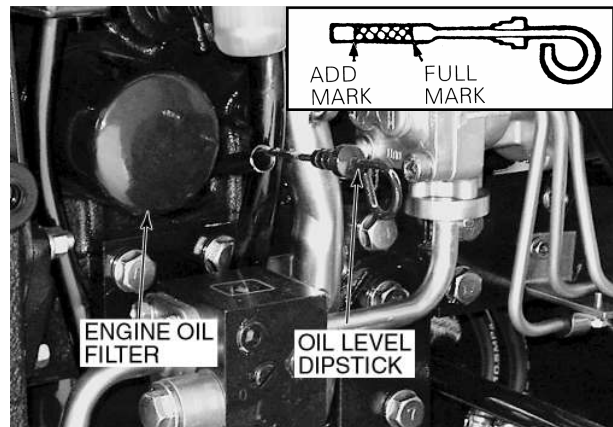

Figure 49 - Engine Oil Level Dipstick and Oil Filter
1. With the tractor standing level, and after the engine has been stopped for a period of time, check the oil level with the dipstick, Figure 49.
2. Unscrew the oil filter, Figure 49, catching the used oil in a suitable container placed below the filter. Discard the filter.